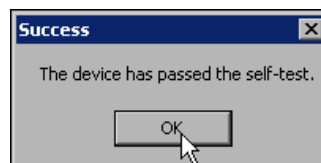

Figure 1-15. Self-Test Result for the NI 5610 Upconverter Module
12. The Success dialog appears as shown in Figure 1-15. Click **OK** to return to MAX.